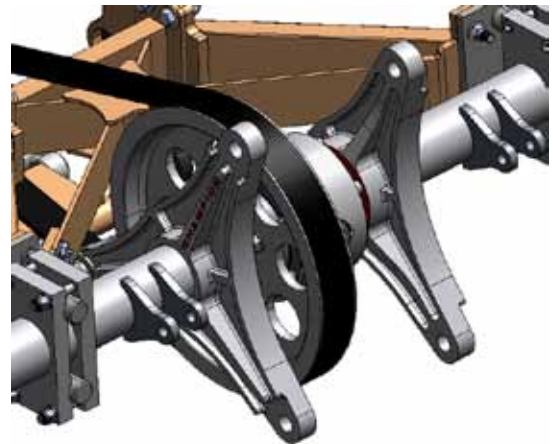

Figure 20
- d. Remove the upper and lower rear connector tubes and position drive belt onto the rear pulley. Figure 20